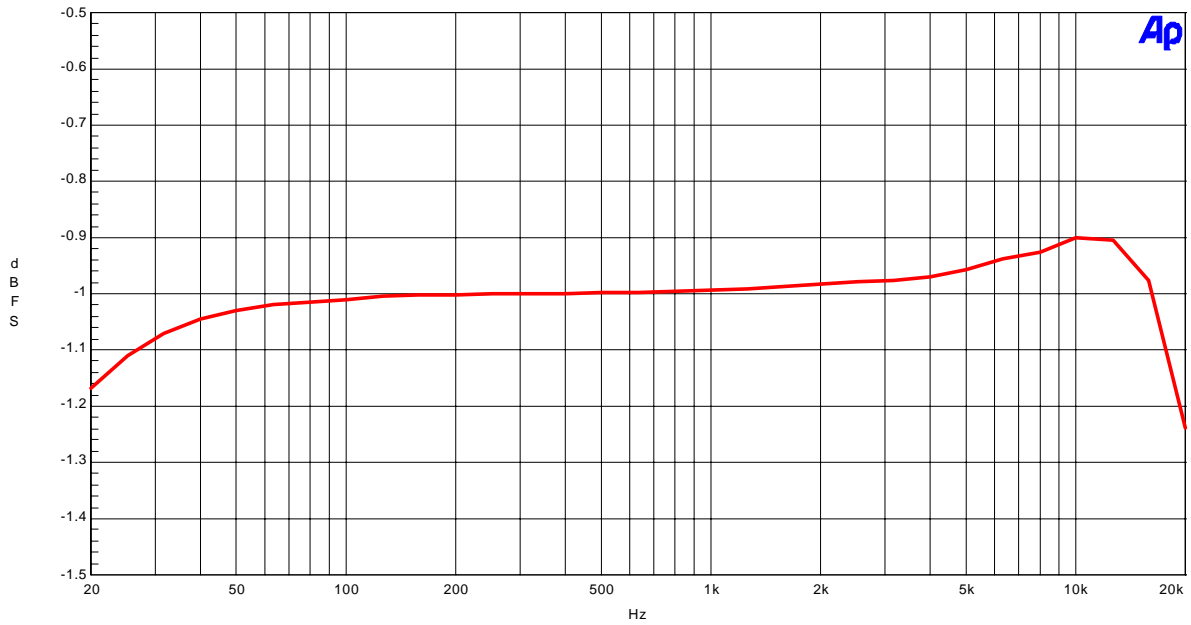

Figure 5. Frequency Response (fs=48kHz; -1dBFS input)
- Figure 5. Frequency Response (-1dBFS input)